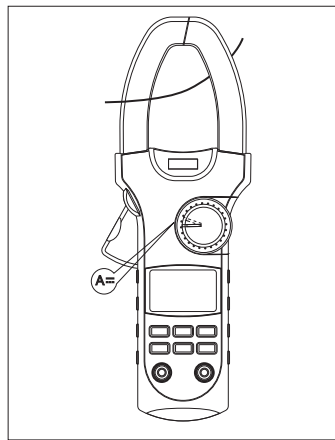

Figure 9
G. DC Current Measurement (see figure 9)